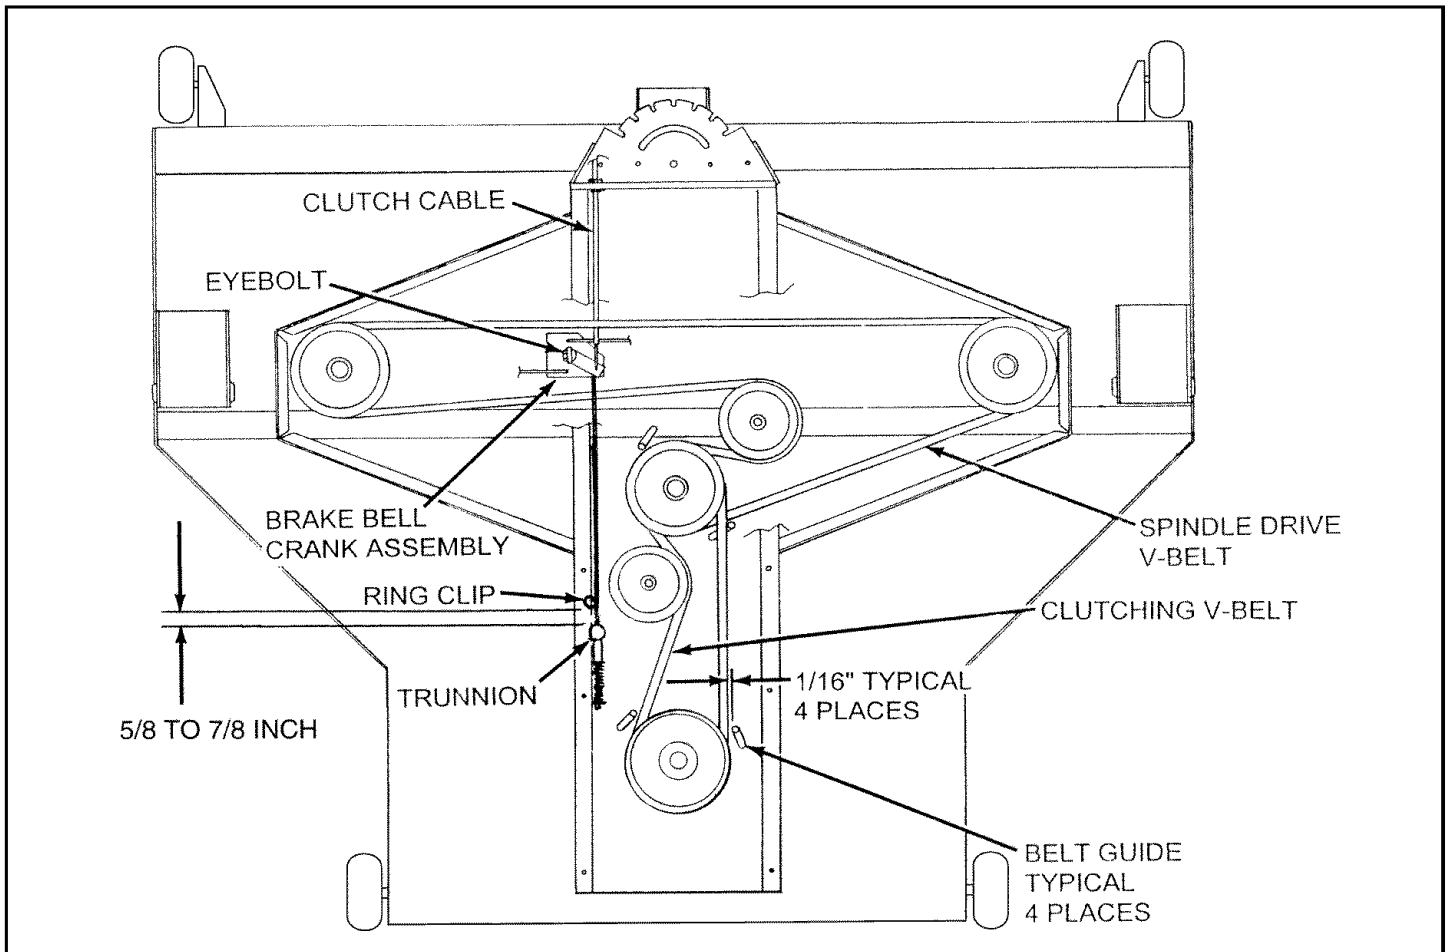

FIG. 11
- Loosen and move four Belt Guides from out of the way of the V-belt removal. (See Fig. 11)
- Remove Eyebolt holding Brake Bell Crank Assembly to deck and move Brake Bell Crank Assembly out from under Engine Mounting Plate. (See Fig. 11)
- Check spring tension. (Refer to Fig. 11, page 20.)